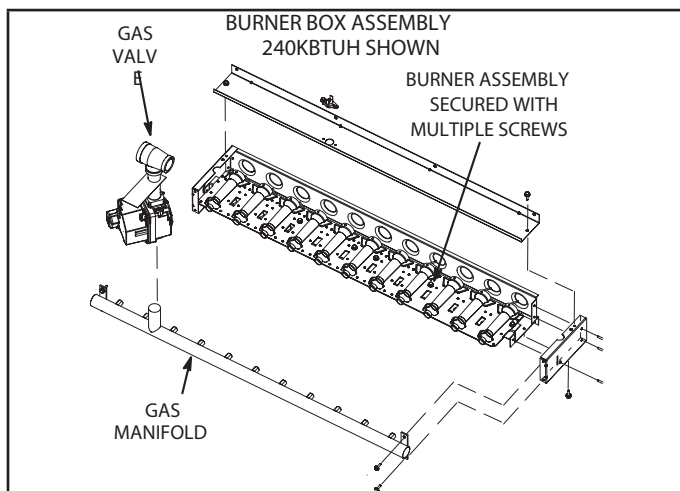

FIGURE 31
- 3 - Remove screws securing burner assembly to burner support and remove assembly. See figure 31. Clean as necessary.